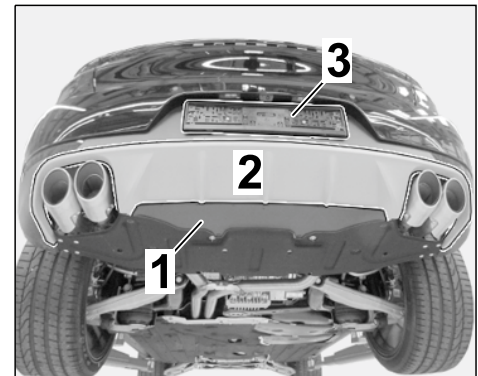

Figure 16
- 4.2 Install rear apron with new underride guide (⇒ *Figure 16*; ⇒ *Workshop Manual '635519 Removing and installing rear apron'*).